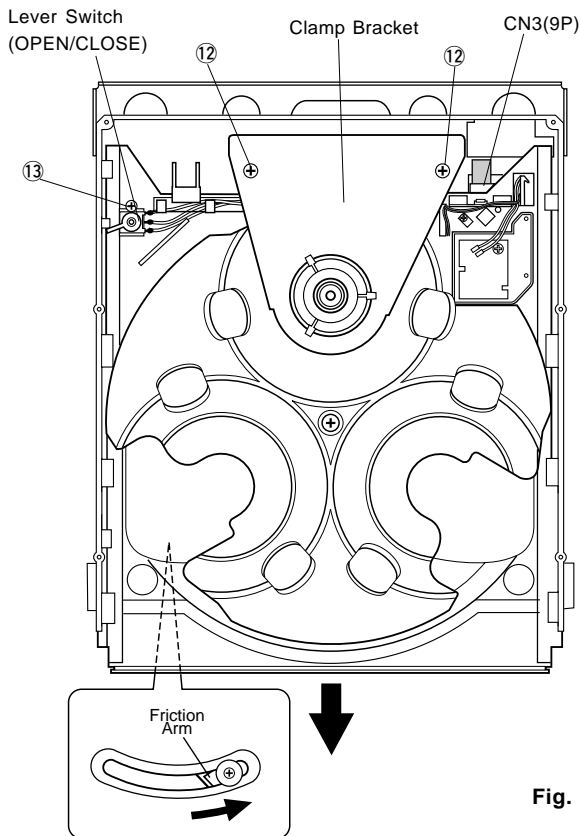

Fig. 10
- a. Remove 2 screws (12) and then remove the Clamper Bracket in Fig. 10.
- b. Remove 1 screw (13) and then remove the Lever Switch in Fig. 10.
- c. Disconnect the Flat Connecting Cable (9P) in Fig. 10.
- d. Push the Friction Arm (the bottom side of the CD Mechanical Unit) with a screwdriver or the like and pull out the Tray forward as in Fig. 10.